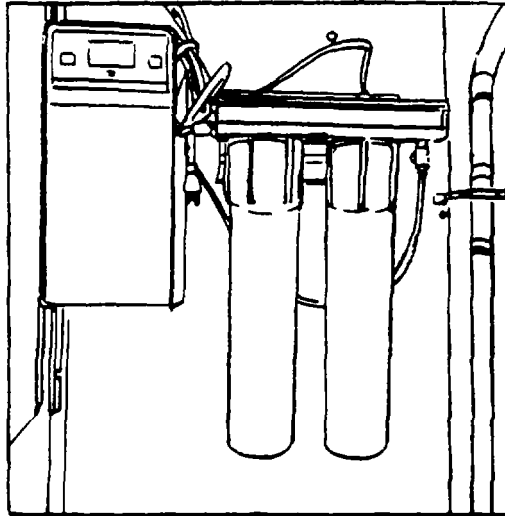

Figure 1-20. Water Purification System
1. *Water Purification System (Figure 1-20)*. The Water Purification System is designed to produce Type I Reagent Grade Water equal to or exceeding standards established by ASTM. It can be used on pretreated or high quality tap water.